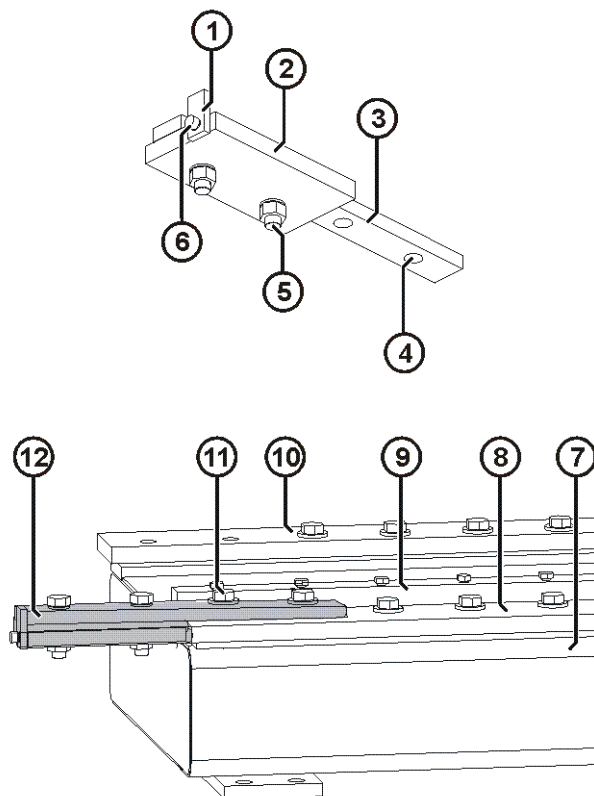

Fig. 11-9: Converting the auxiliary device
1. Remove the two hexagon bolts (>>> Fig. 11-9) (11) and lock washers from the auxiliary device and remove the auxiliary device.
2. Remove the two M20x80-8.8 hexagon bolts (5) and lock washers from the strip. Turn the rail through 180° and fasten it to the strip again. Tighten the hexagon bolts with a torque of $M_A = 370 \text{ Nm}$.
3. Remove the M10x25-8.8 Allen screw (6) and lock washer and turn the carriage stop through 180°. Fasten the carriage stop to the track again. Tighten the Allen screw with a torque of $M_A = 45 \text{ Nm}$. The stop must be attached so that the lower edge of the stop is flush with the lower edge of the rail.
5. Mount the auxiliary device on the track and fasten it using two M20x80-8.8 hexagon bolts (11) and lock washers. Tighten the hexagon bolts with a torque of $M_A = 370 \text{ Nm}$.